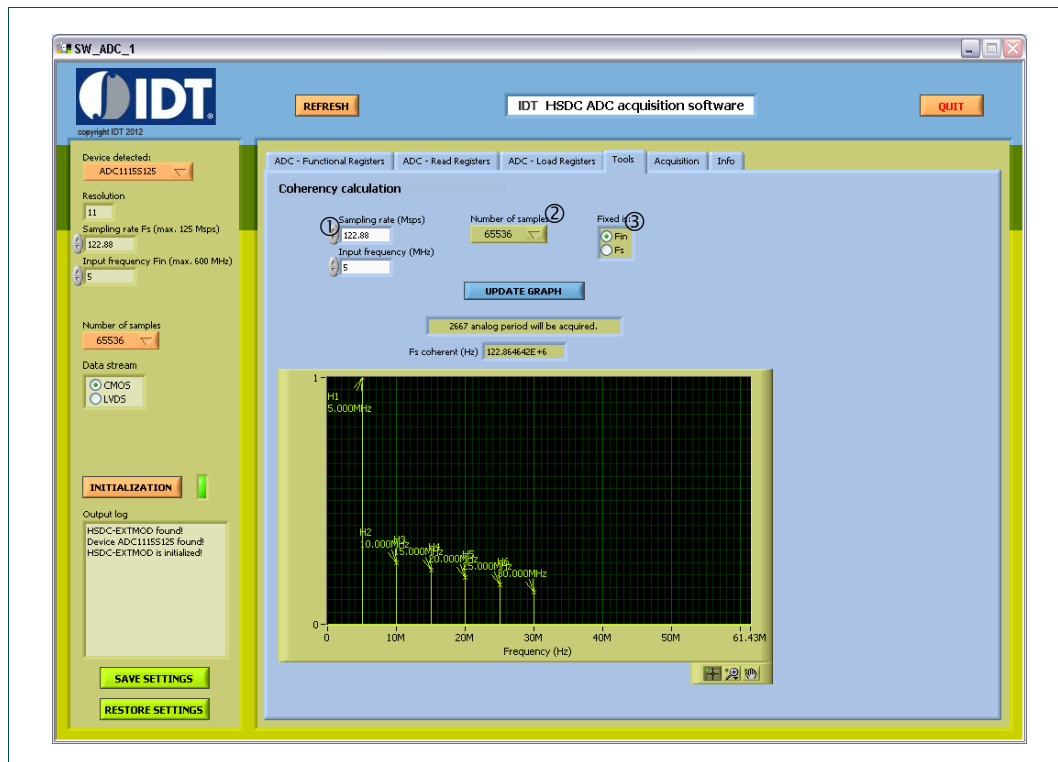

Fig 13. SW\_ADC\_1\_r02: “Tools” page
- Browse to select your file (button ①);
- Click on “Load data” button ②.
A message on field ③ and a progress bar will inform about the status of the operation until message “download done!” is seen. The table ④ is updated with the current values downloaded at the fly as can be seen on figure 13.